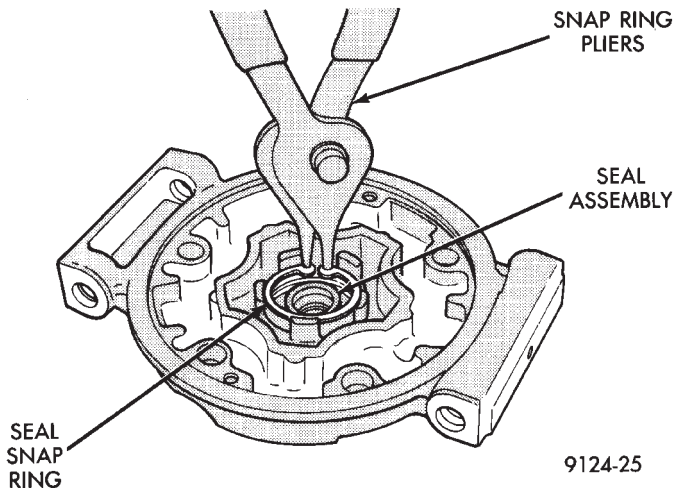

Fig. 6 Seal Snap Ring
(8) Remove seal snap ring (Fig. 6).